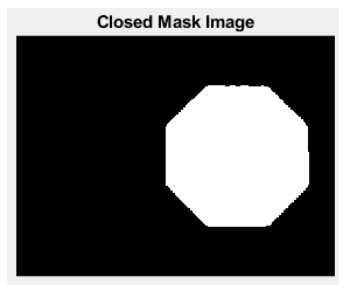
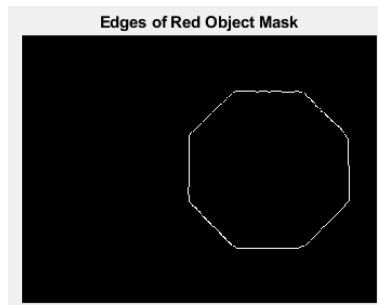

Figure 8: Refined stop sign mask image after smoothing edges
Figure 10: Edges of mask in Figure 8
3. Any rough edges can be smoothed out by using a morphological closing operation. Use the function “imclose” with a “disk” structuring element to smooth the edges of the stop sign. Adjust the radius of the disk as needed for the best results. After following all the refinement steps, you should end up with a sign image similar to that in Figure 8 below.
1. Edges of objects can provide useful data like the shape of the object. Use the function “edge” with the method “sobel” on the image in Figure 8 (the smoothed red object mask) to obtain the shape of the object. You should end up with an octagon similar to the image in Figure 10.